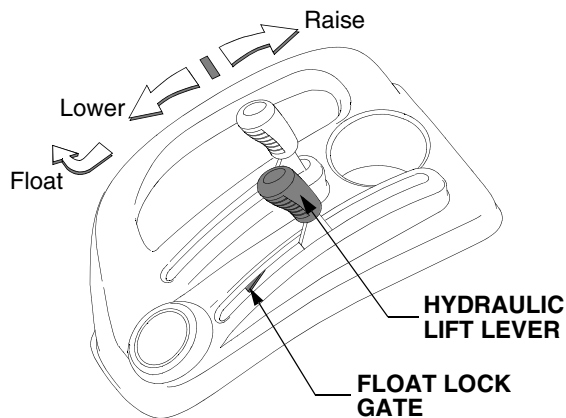

Figure 20
- Move the lift lever forward in the slot to lower the equipment to the desired height setting. Refer to Figure 20.